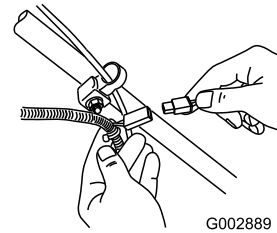

Figure 25
1. Connect the charger to the mower wire harness located below the ignition key (Figure 25).